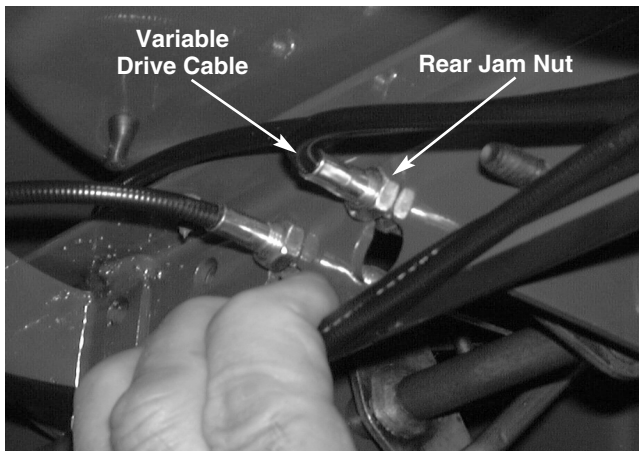

FIGURE 1.
- 6). Locate and loosen the variable drive cable adjustment jam nuts using two 1/2" wrenches. See figures 1 and 2.
- 7). By hand, loosen the rear jam nut (closest to the deck) until it bottoms out on the threaded cable end. See figure 1.
- 9). By hand, tighten the rear jam nut (clockwise) until it is snug up against the rear of the front channel assembly. See figure 1.